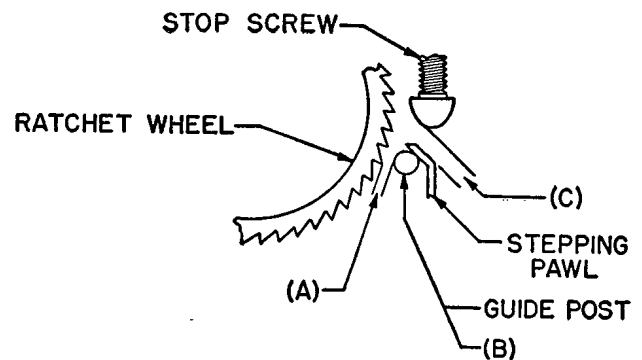

Fig. 7 — Stepping Pawl and Ratchet Wheel
4.02 CLEARANCE BETWEEN STEPPING PAWL AND RATCHET WHEEL, FIG. 7 (A)
4.03 STEPPING-PAWL POSITION, FIG. 7 (B)
4.04 STEPPING-PAWL TRAVEL, FIG. 7 (C)